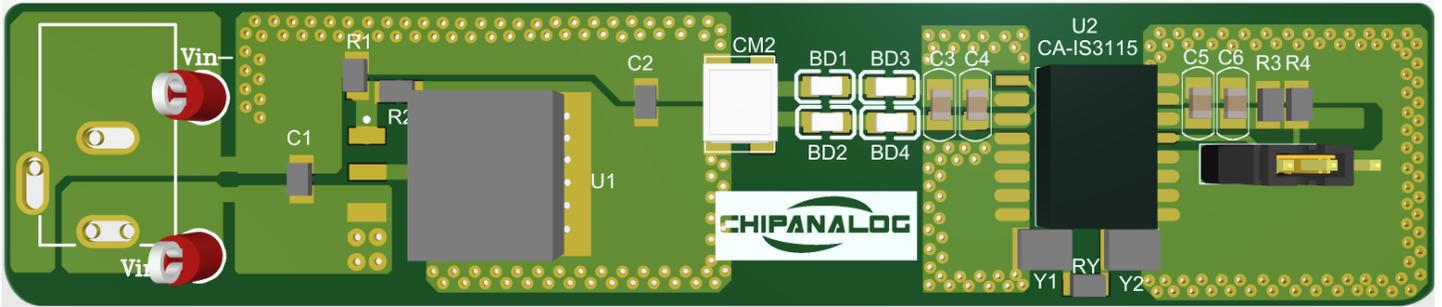

Figure 3-1. CA-IS3115AW reference design board (2-layer PCB)
- 2) Place decoupling capacitors as close as possible to the device pins, maximum distance is less than 2mm, see Figure 3-1, C3/C4 and C5/C6.